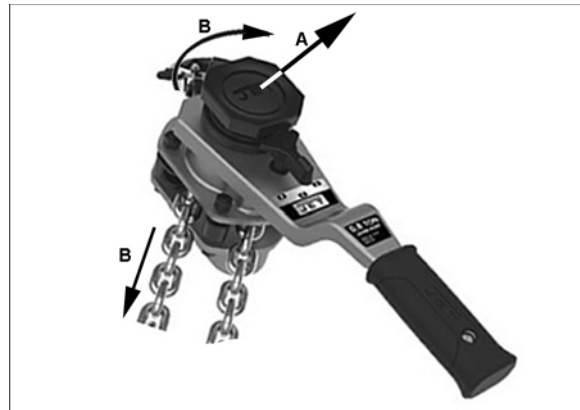

Figure 4
2. Place the selector switch on the handle in the center neutral position, and pull out on the handwheel (A, Figure 4). This will allow “free-wheel” mode. Pull the load chain by hand to position the bottom hook.
4. Rotate the handwheel clockwise while simultaneously pulling down on the load chain, (B, Figure 4). The handwheel will snap back into place, re-engaging the gear.